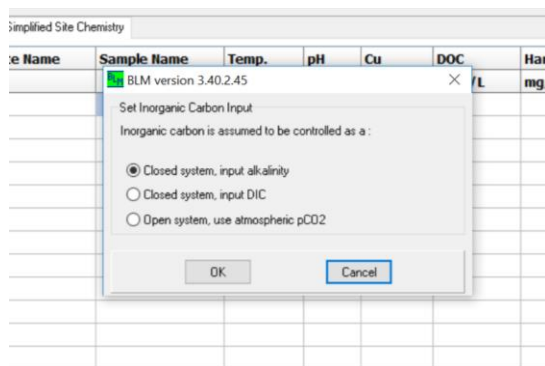

Figure 4.13. Snapshot of *Set Inorganic Carbon* menu item.
- If alkalinity data are available, the *Set Inorganic Carbon* option should be selected from the *Inputs* menu and then *Closed System, Input Alkalinity* should be selected (Figure 4.13). An additional column for alkalinity will appear and the data are entered there.